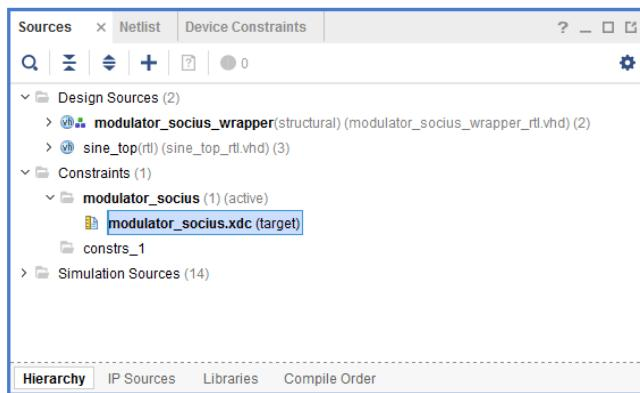

Figure 10.7: Created modulator_socius constraints set
11. Click **OK** and your **modulator_socius** constraint set with **modulator_socius.xdc** file should appear in the **Sources** window under the **Constraints**, see Figure 10.7.
14. Click **Finish** and your constraints file should appear under the **Constraints** in the **Sources** view, see Figure 10.7.